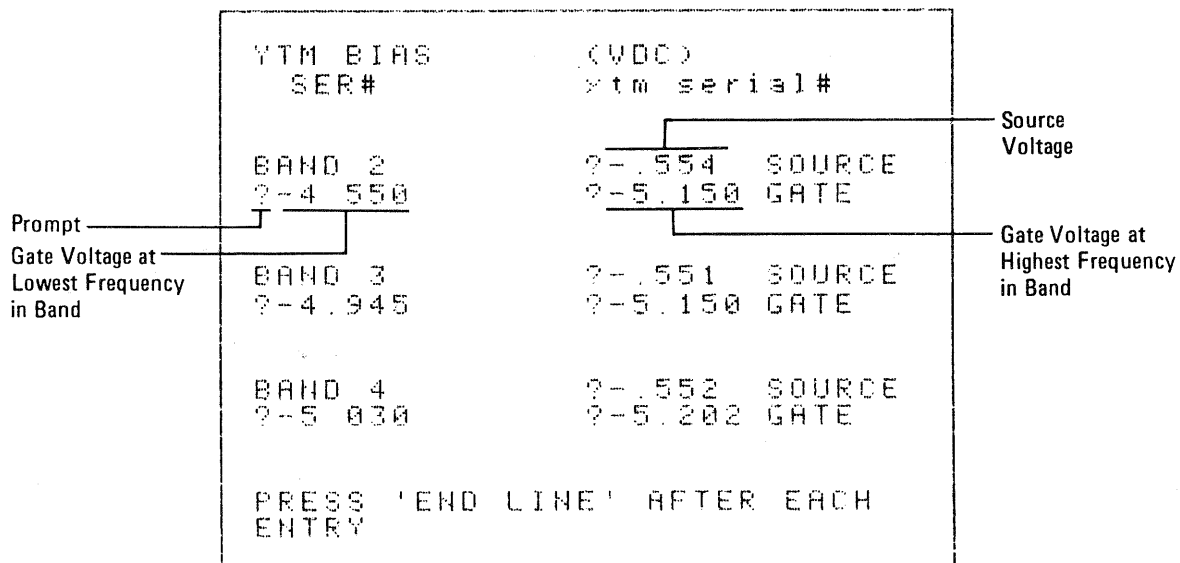

Figure 5-19. Format for Entering SRD Bias Voltages
a. Source and gate dc bias voltage values are entered into the controller as shown in Figure 5-19. The bias voltages are listed on the YTM label located inside the Signal Generator near the attenuator. The question mark (?) is used as a prompt to indicate when and where data should be entered.